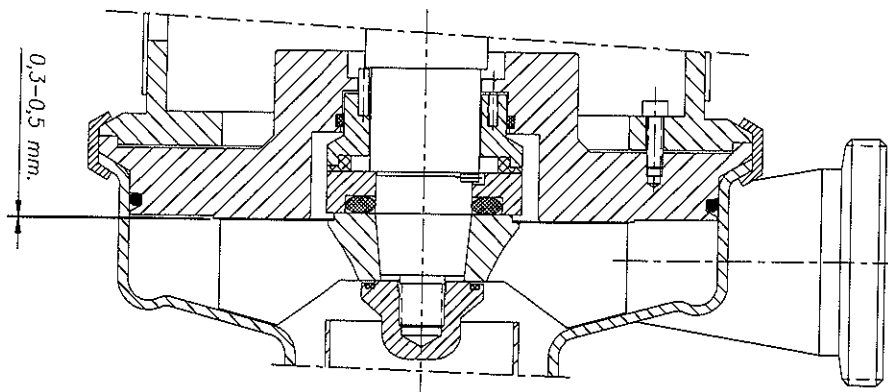

Figure 8.2: Clearance between impeller and cover.
- Slide the impeller (7) over the shaft (10) as far as the rotating part of the mechanical seal (51).
- Place a spanner on the shaft planes (10), to prevent it from rotating.
- Assemble the O-ring (55) in the groove at the base of the blind nut (45). Make sure that the O-ring is not assembled the wrong way around.
- Tighten the nut (45).
- Check that the clearance between the impeller (7) and the cover (2) is between 0.3 - 0.5 mm, so that the working pressure of the seal is correct. See Figure 8.2.